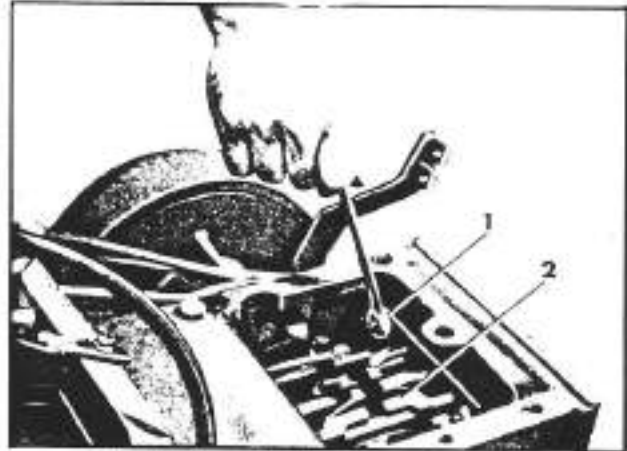

Fig. 3-22. Removal of the support of the speed selector control rods
- q. Loosen the two lock nuts (1; fig. 3-22) of the support of the control rod (2; fig. 3-22).